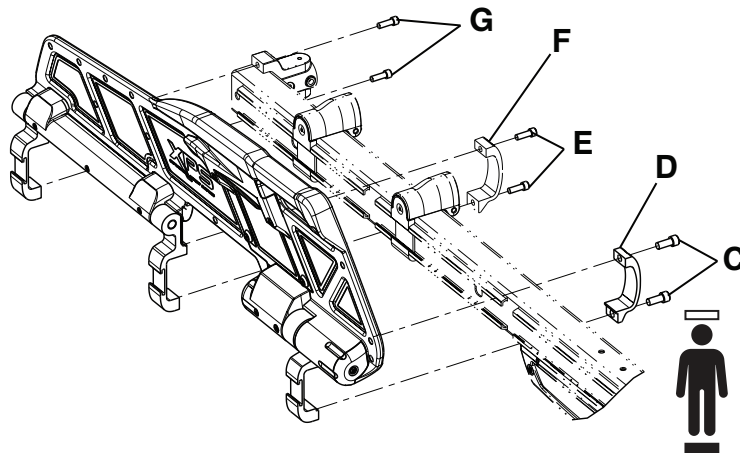

Figure 22 – Remove the siderail assembly
5. Using a 1/4" hex wrench, remove the socket head cap screws (C) that secure the siderail clamp (D) to the ratchet assembly at the foot end of the main assembly (Figure 22). Save the screws.
6. Using a 3/16" hex wrench, remove the two socket head cap screws (E) that secure the middle siderail clamp (F) to the outer rail assembly (Figure 22). Save the screws.
7. Using a 3/16" hex wrench, remove the two socket head cap screws (G) that secure the top and bottom of the base/litter interface bracket to the outer rail assembly (Figure 22). Save the screws.